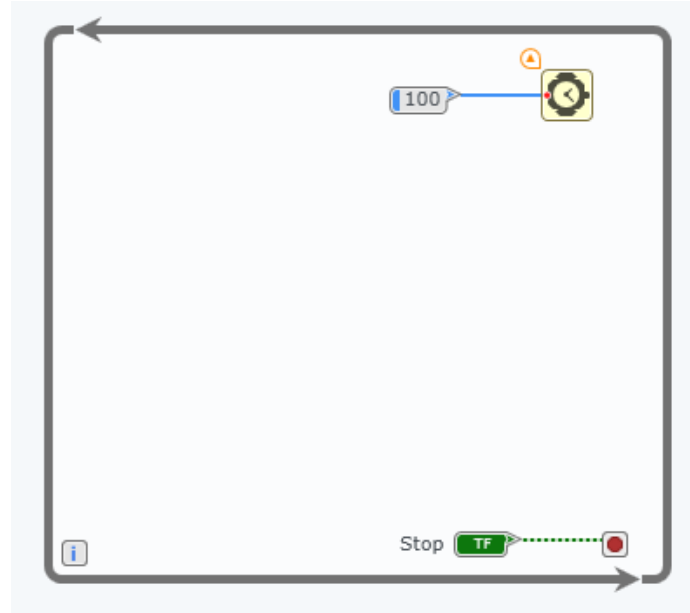

Figure 3.6: Basic Configuration of a Program in LabVIEW: While loop, Wait block and Stop button
2. Open a LabVIEW Communication. Make a New Project. In the diagram panel, insert a "while loop" and "wait" block. Insert a "numeric constant". Connect the "wait" block to the "numeric constant" and set its value to 100. Select the panel tab. Insert a "Stop button". Again, select diagram tab and update it(insert the stop button). Connect the stop button to the "condition" part of the while loop. See Fig. 3.6